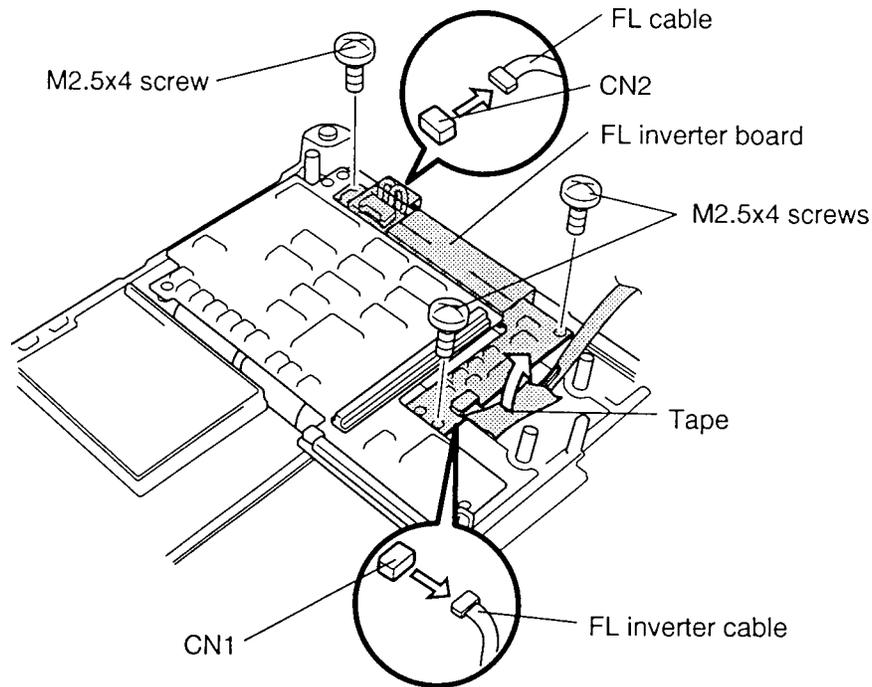

Figure 4-16 Removing the FL Inverter Board
To remove the computer's FL inverter board, follow the steps below and refer to Figure 4-16.
3. Remove the **tape** and disconnect the **FL inverter cable** from **CN1** and the **FL cable** from CN2 (Figure 4-16).
4. Remove the **three M2.5x4** screws securing the **FL inverter board** and lift out the **FL inverter board** (Figure 4-16).
To install the computer's FL inverter board, follow the steps below and refer to Figure 4-16.
1. Connect the **FL inverter cable** to **CN1** on the **FL inverter board** and the **FL cable** to **CN2** (Figure 4-16).
2. Replace the **FL inverter board** and secure it with the **three M2.5x4 screws** (Figure 4-16).